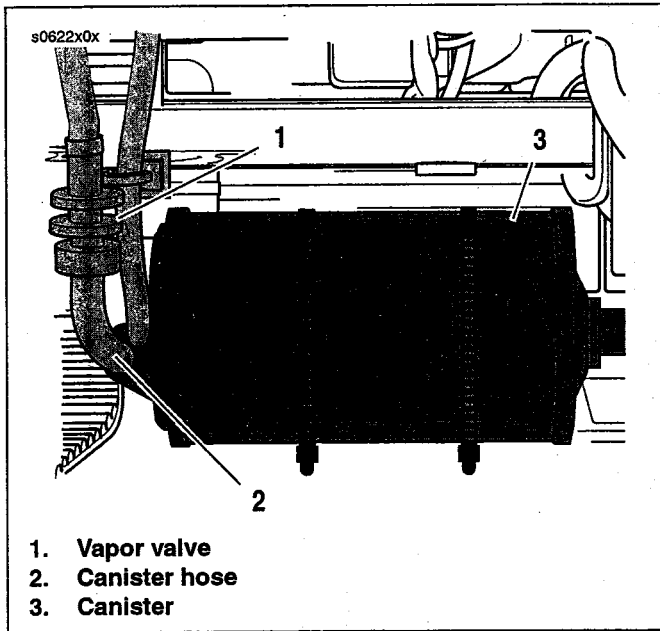

Figure 3. Vapor Valve and Hose: Softtail Models
- **Softail models:** See Figure 3. The vapor valve (1) is located next to the EVAP canister (3) below the rear fork pivot. Follow instructions in the service manual to gain access to the vapor valve and remove the canister hose (2):